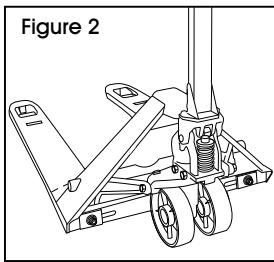

Figure 2
1. Pump the forks higher than 7" or until the lateral wheels touch the floor. (See Figure 2)